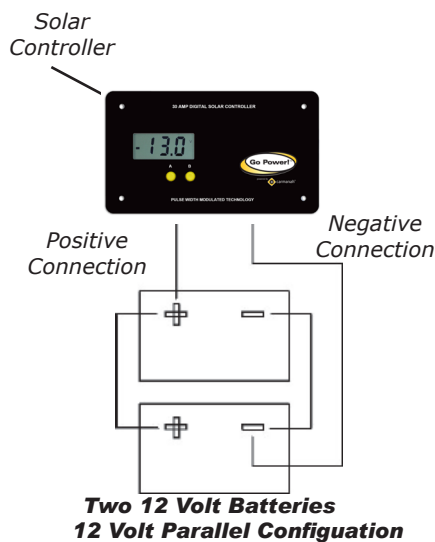

Figure 6
2. Parallel 12 Volt battery connection (See Figure 6)